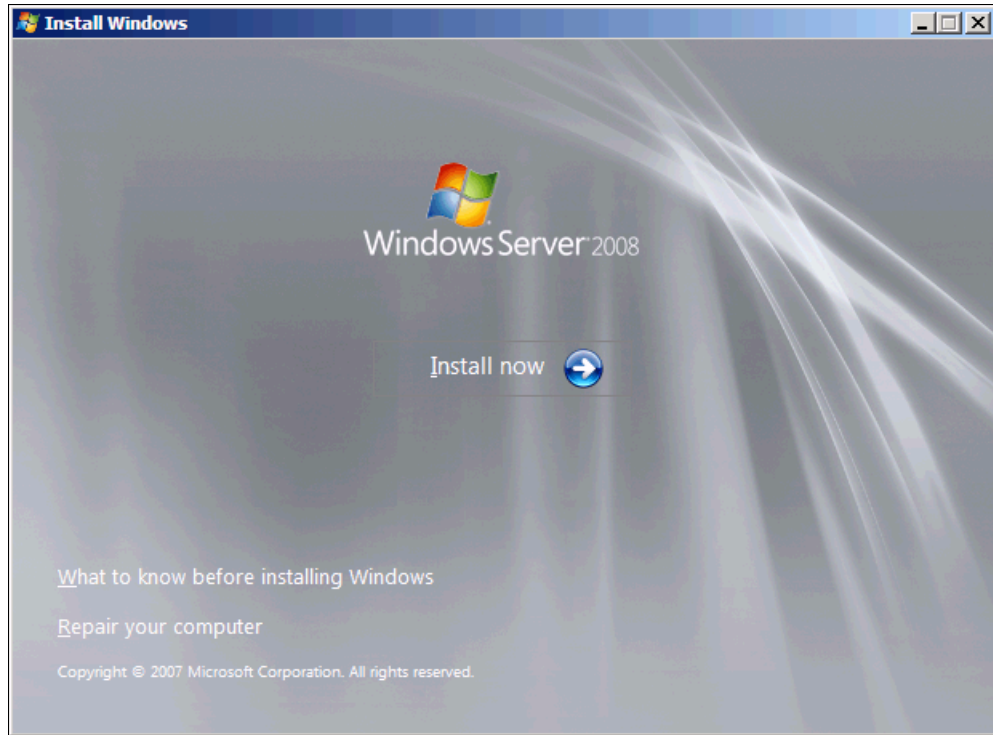

Figure 9-92 Selecting Install now in the Windows installation window
8. In the Windows installation window (Figure 9-92), click **Install now**.